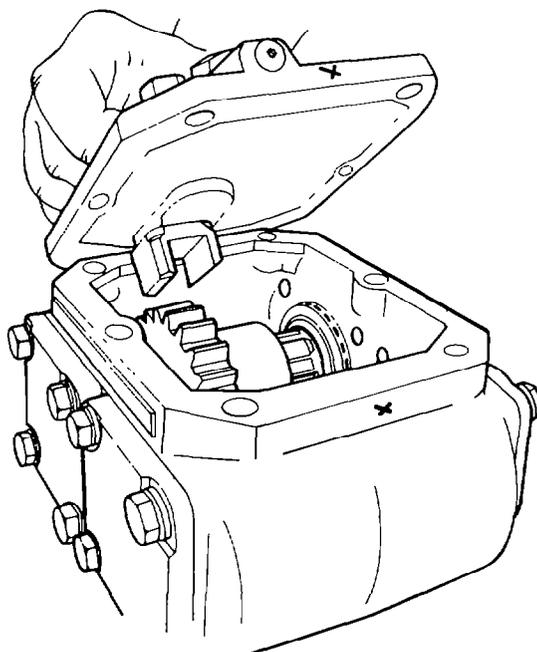

Fig. 402 — Installing Selector Cover
- r. Position a new gasket on the selector cover and install the cover cable bracket and the retaining bolts. Ensure that the selector fork is positioned over the gear (see fig. 402). Torque the retaining bolts to 34 – 38 Nm (24 – 28 lb.ft).